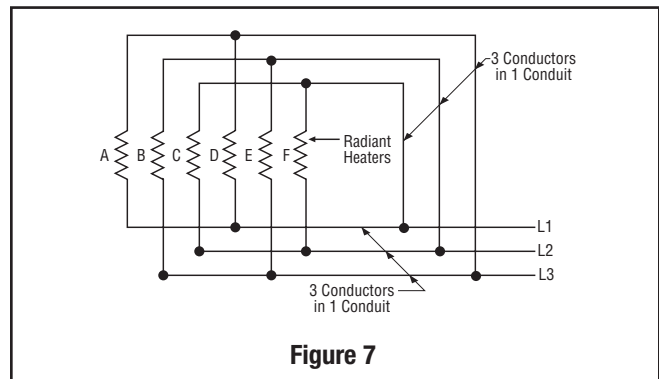

Figure 7
9. **DELTA CONNECTIONS** — When heaters occur in multiples of three, they may be connected to, and balanced across, three-phase lines. The most commonly used connection is the delta connection illustrated in Figure 7.